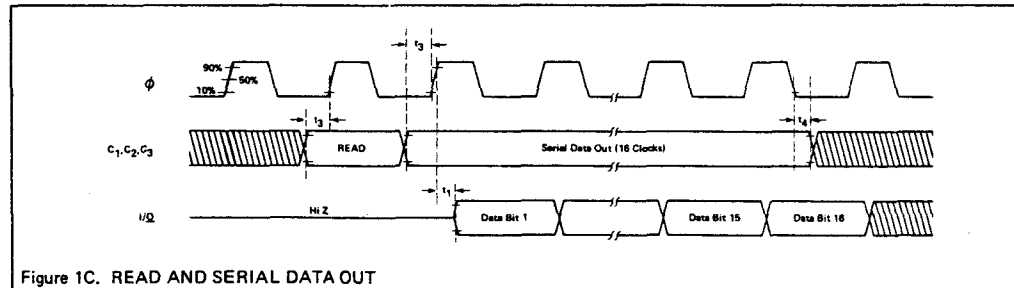

Figure 1C. READ AND SERIAL DATA OUT
4. Other functions on the selected address can be performed as shown in Figures 1C, 1D and 1E.